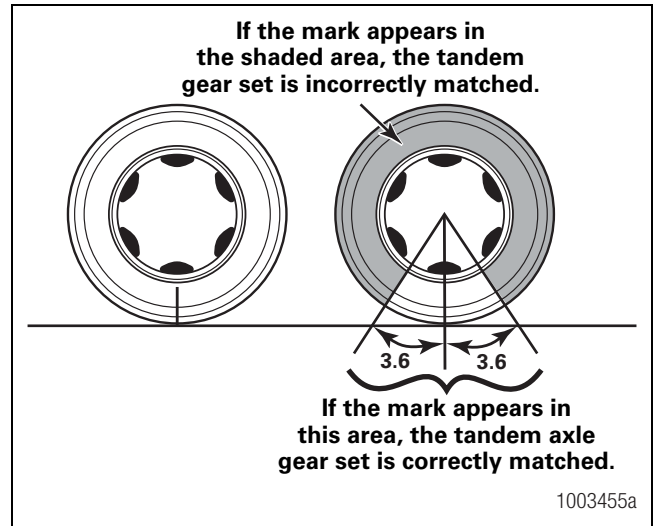

Figure 4.18
7. Note the positions of the tire marks you previously made. On a correctly matched tandem axle gear set, both tire marks will be within ± 3.6 degrees of each other. Figure 4.18.